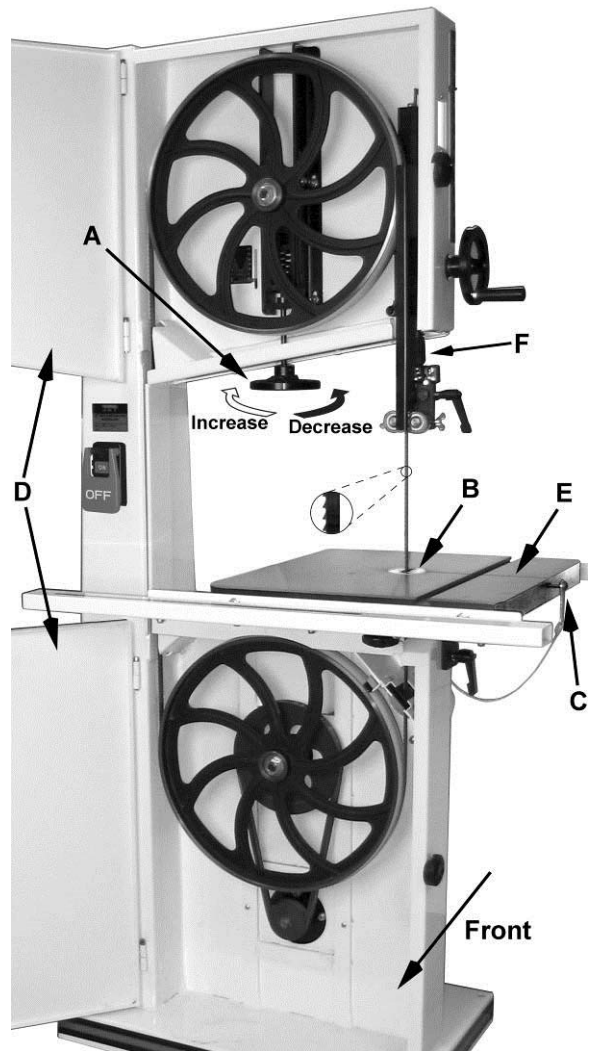
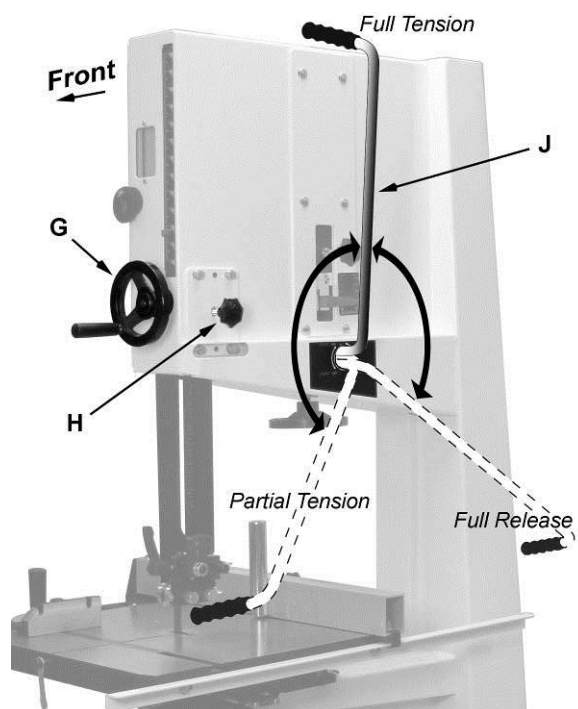

Figure 17
Figure 18
2. Place the *mode selection lever* (J, Fig. 18) in the *Full Release (Blade Change)* position.
Note 2: The *blade tension handwheel* (A, Fig. 17) is primarily used for initial blade tension adjustments (described on following page).
3. Remove the *table insert* (B, Fig. 17).
4. Remove the *tapered pin* (C, Fig. 17) by using the wrench attached together with the pin.
5. Lower the *upper blade guide assembly* (F, fig. 17) by loosening the *knob* (H, Fig. 18) and rotating the *handwheel* (G, Fig. 18) clockwise.
6. Open *upper and lower front doors* (D, Fig. 17).
7. Carefully remove the blade from between upper and lower blade guides and upper and lower wheels; then remove blade through the *table slot* (E, Fig. 17).
8. Guide new blade through *table slot* (E, Fig. 17). Place blade in upper and lower blade guides.
Note: Make sure blade teeth point down toward table (see inset, Fig. 17), and toward the front of the saw.
10. Replace the *table insert* (B, Fig. 17) and *tapered pin* (C, Fig. 17).
11. Place the lever (J, Fig. 18) to the *Full Tension* or *Partial Tension (Idle/Tracking)* position.
1. Place the *mode selection lever* (F) in the *Full Tension* position (see Figure 18).
Tip: When the band saw is not being used, place the *mode selection lever* (J, Fig. 18) to the *Partial Tension* position – this will prolong the blade's life.
1. Place the *mode selection lever* (J, Fig. 18) in the *Full Tension* position.
Place the *mode selection lever* (J, Fig. 18) in the *Partial Tension* position when the machine is not in use.